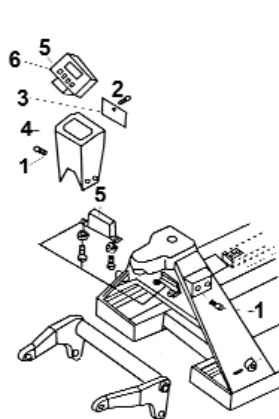

Fig. 1
- 3.1.1 Remove the four bolts (1) from the fork frame. Refer to Fig. 1.